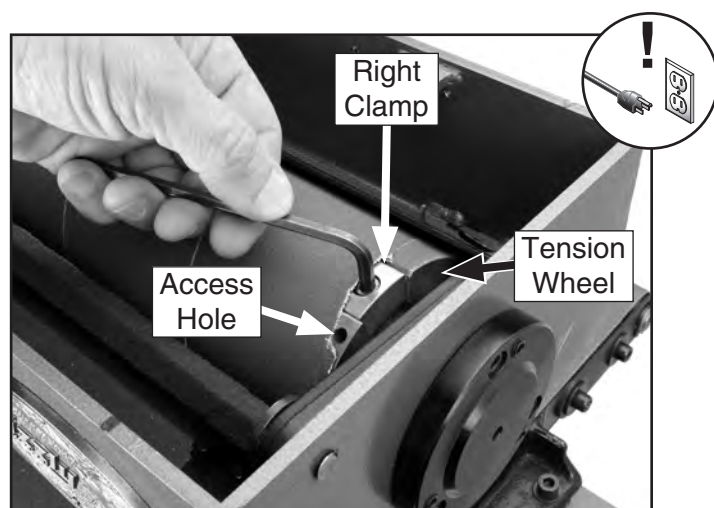

Figure 17. Example of loosening cap screw on right spring-loaded clamp (dust hood removed for clarity).
2. Open top cover and loosen cap screw on right spring-loaded clamp, as shown in **Figure 17**.